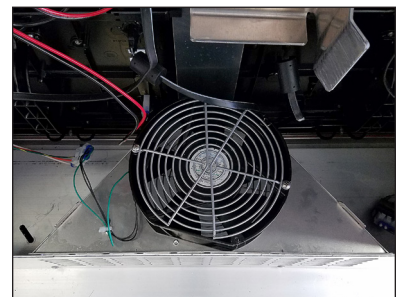

Figure 29: Display Fan
2. Use the Phillips screwdriver to loosen the two fan mounting screws. Refer to **Figure 29**.
6. Attach harness to the fan plenum using a cable tie. Refer to **Figure 29**.